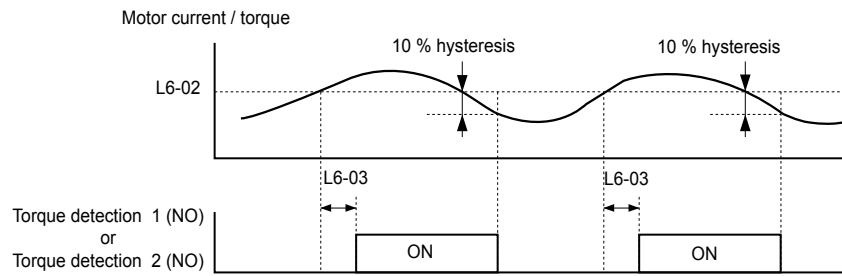
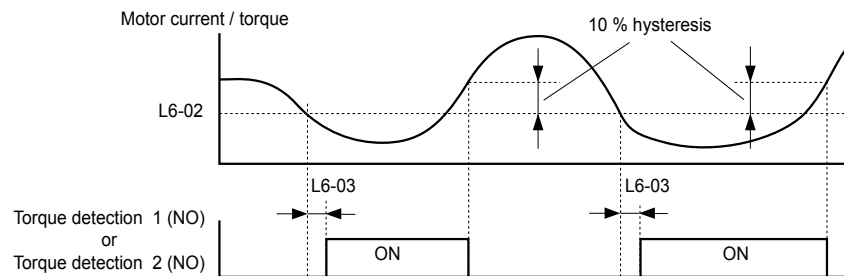

Figure 5.48 Overtorque Detection Operation
Figure 5.49 Undertorque Detection Operation
**Figure 5.48** and **Figure 5.49** illustrate the functions of overtorque and undertorque detection.